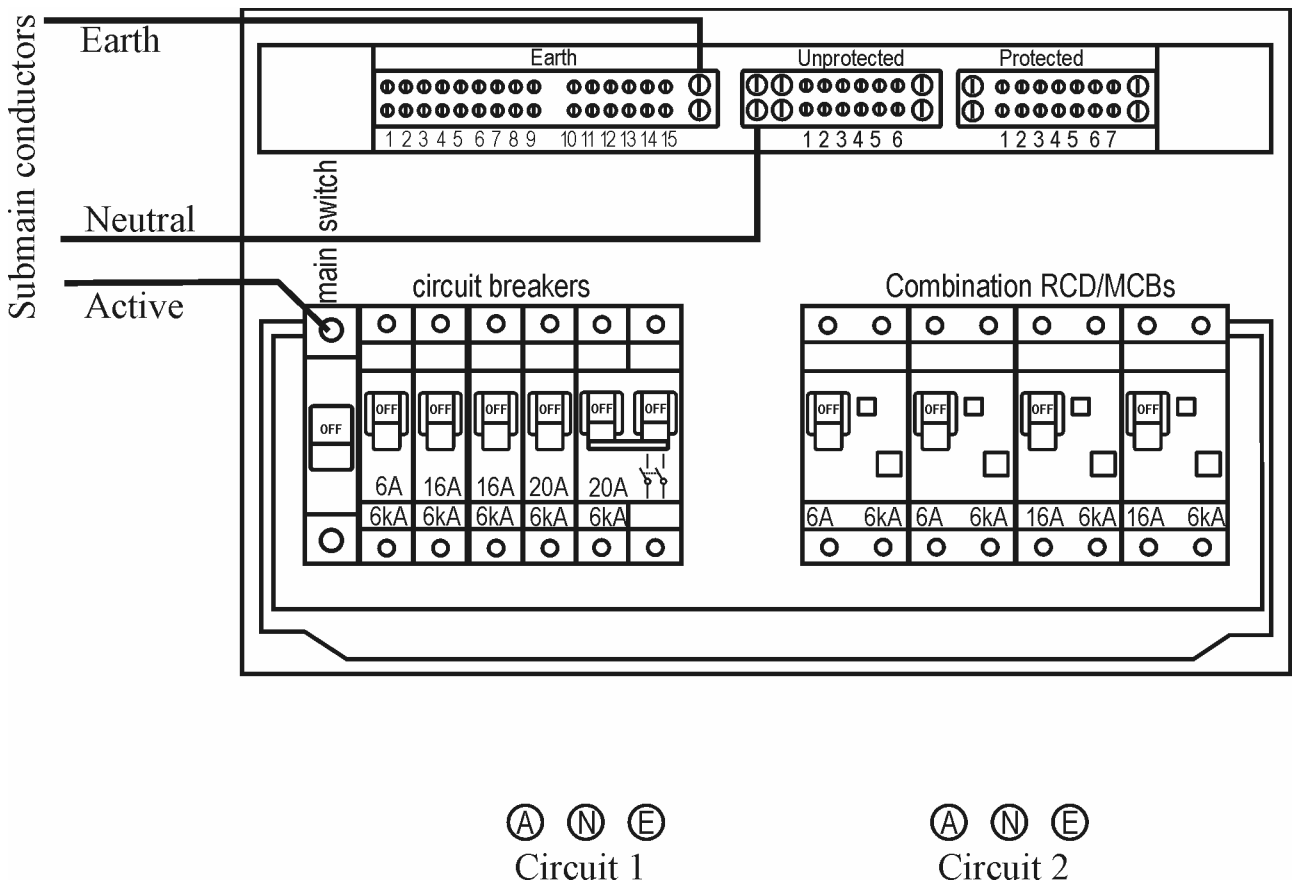

Figure 6
The equipment shown in Figure 6 is for a switchboard in a multiple-domestic installation. Arrangement of the circuits places them partially surrounded by bulk thermal insulation. Two (2) 16 A combination RCD/MCBs are required to protect two final sub-circuits supplying 10 A socket outlets from the switchboard. Show on the diagram the necessary Active, Neutral and Earth connections for these two final sub-circuits.